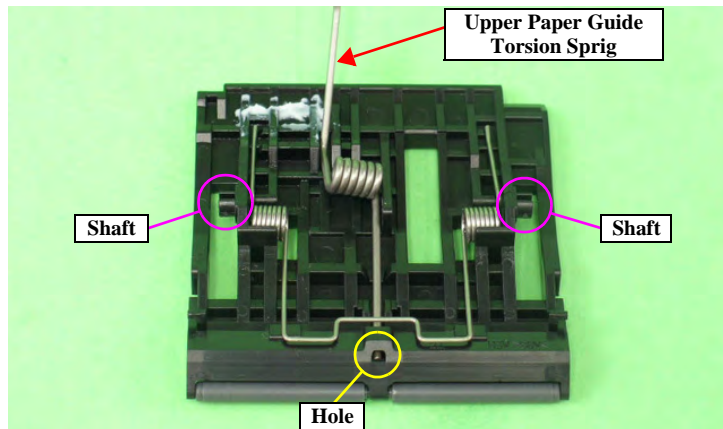

Figure 4-144. Reinstalling the Upper Paper Guide Torsion Spring
4. Lift the six Upper Paper Guide Assys from the Main Frame to release the shaft referring to Figure 4-144, and remove the Upper Paper Guide Assys to the rear.